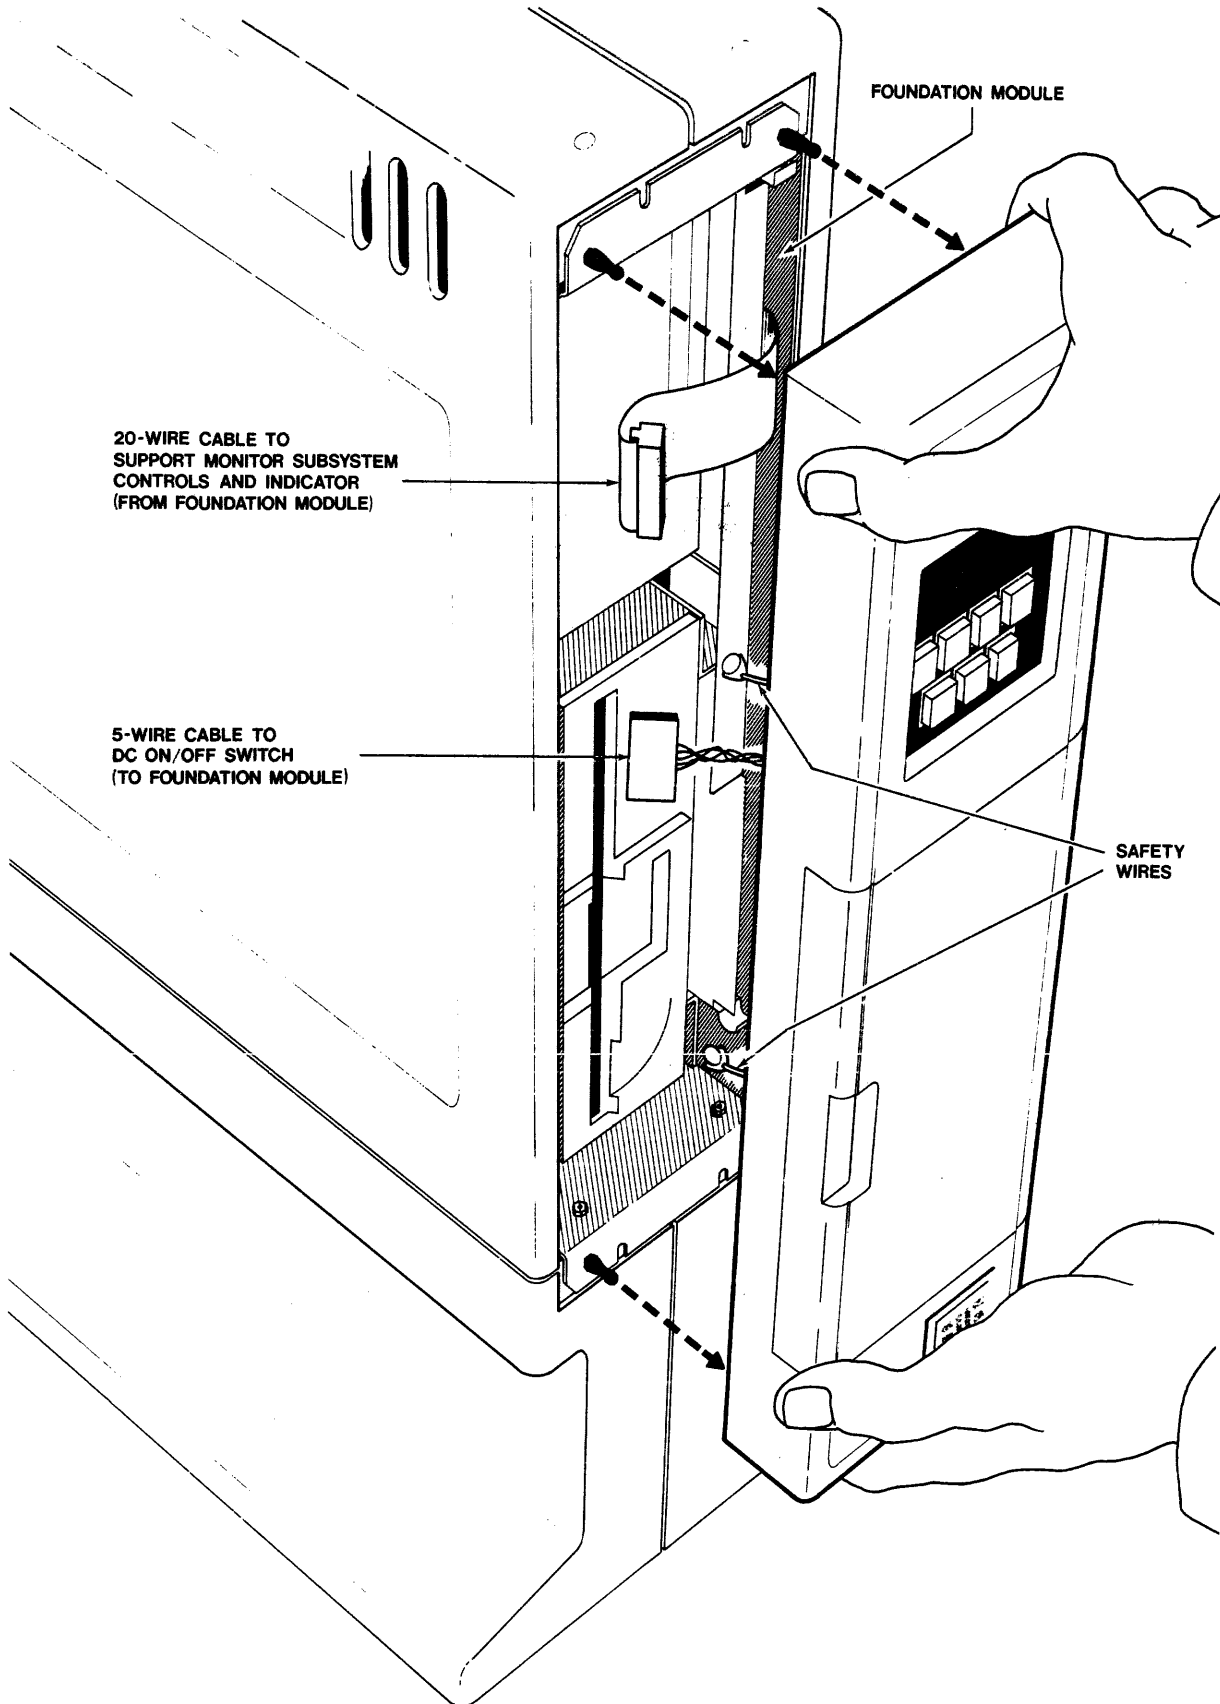

Fig. 10-2 Removal of front panel
4. FRONT PANEL. Remove the front panel by grasping it firmly and pulling it away from the case. See Figure 10-2. Now disconnect the ribbon-cable connector and